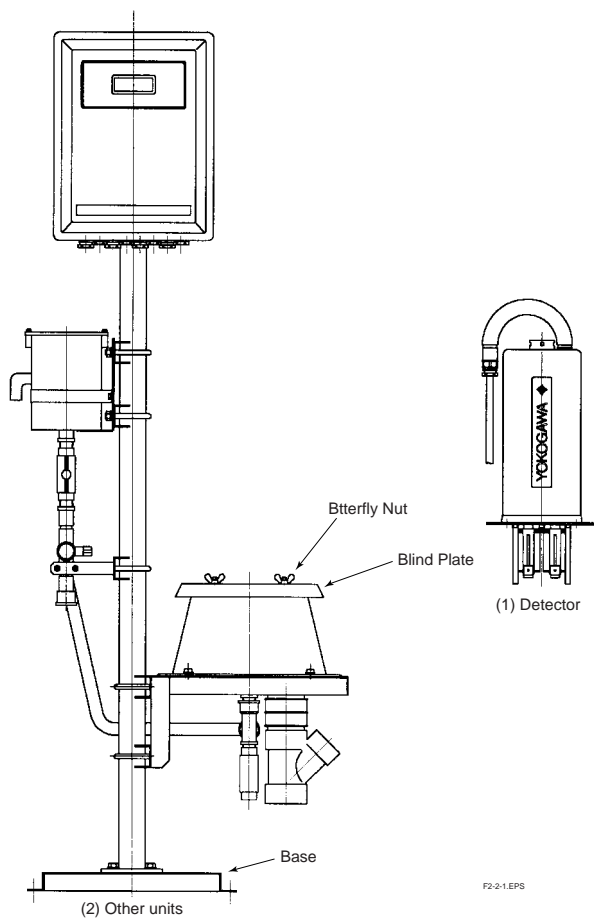

Figure 2.2.1 Shipping Package (Pole-mounting Type)
The instrument is shipped in packing of two units: (1) detector and (2) other units (see Figure 2.2.1 to 2.2.2).